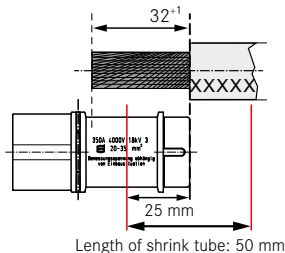

Figure IV-9: Shrink tube assembly over the cable and contact for Han® HC Modular 350
- ① Strip the cable according to Figure IV-9 and IV-10, so that the stripped stranded wire can be inserted fully into the contact.
- ② Terminate the cable to the torque specified for the wire gauge (see Table IV-2, p. 32 et seqq.):
- ④ Pull the shrink tube as shown in Figure IV-9 and IV-10 (red lines!) over the contact and shrink.